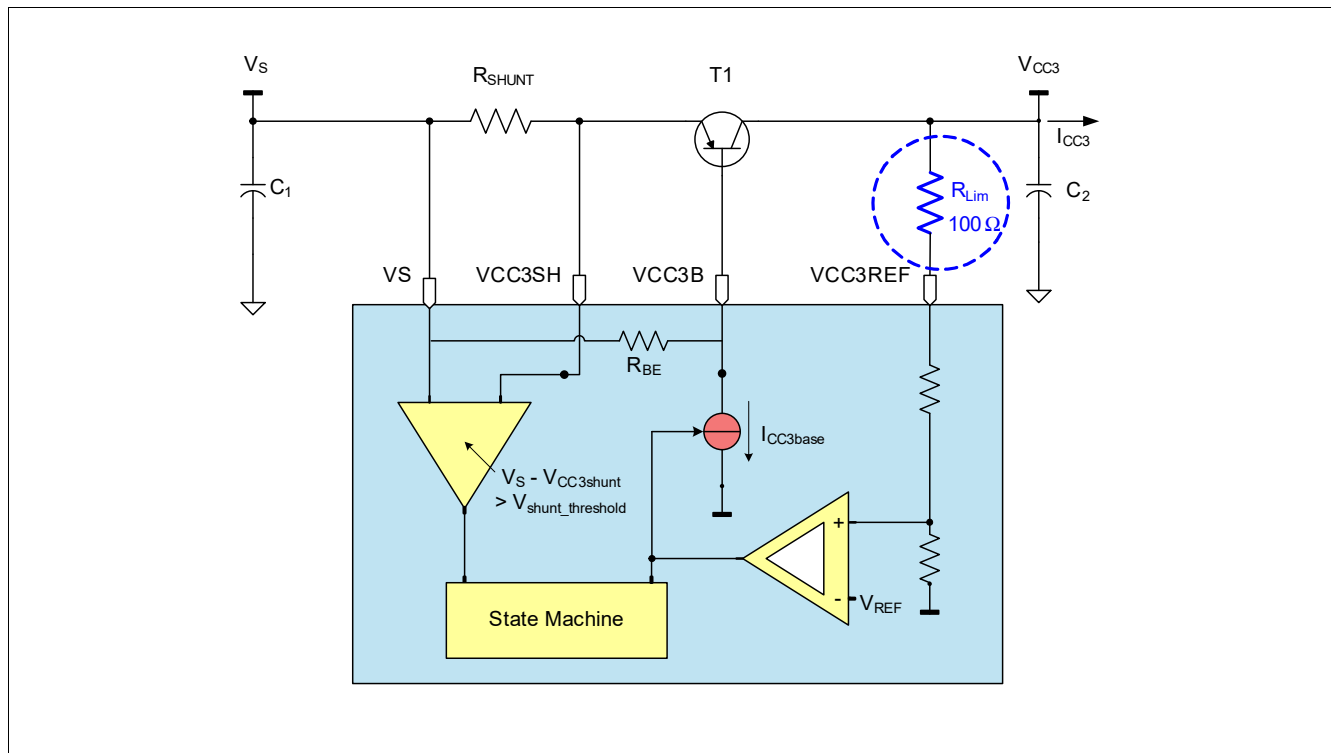

Figure 24 Protecting the VCC3 against inductive short circuits when configured as an independent voltage regulator for off-board supply
3. If the VCC3 output voltage is supplying external off-board loads, the application must consider the series resonance circuit built by cable inductance and decoupling capacitor at the load. Sufficient damping must be provided (e.g. a 100Ohm resistor between the PNP collector and VCC3REF with 10uF capacitor on collector - see also **Figure 24**).